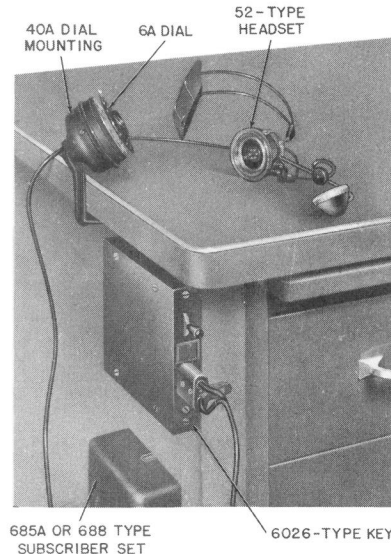

Fig. 1—Typical 4A Key Equipment Installation
3.03 When installing the key on the side of a desk or table, the face of the key should be flush with the edge of the desk or table (Fig. 1).